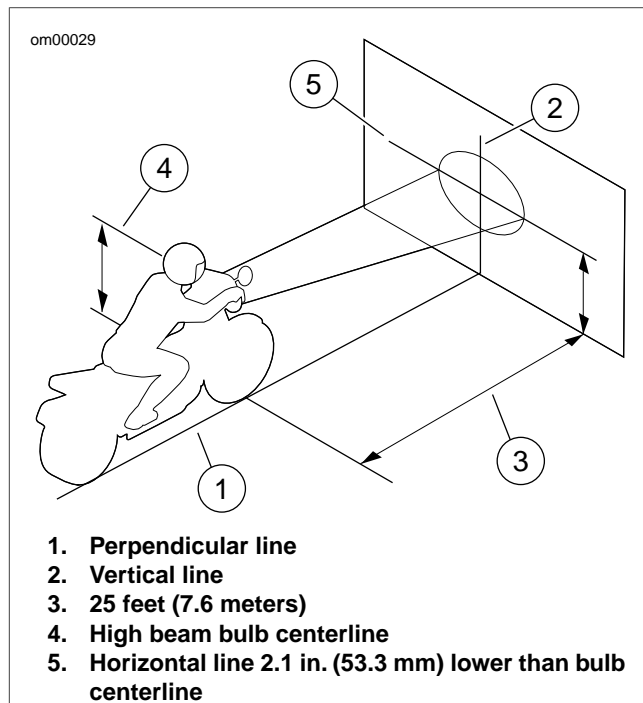

Figure 1-48. Checking Headlamp Alignment
See Figure 1-48. To aid in properly placing the motorcycle, a perpendicular line (1) can be drawn on the floor. For best results, choose an area with minimum light.
3. See Figure 1-48. Draw a vertical line (2) on the wall.
7. See Figure 1-48. Verify headlamp alignment. Turn the ignition switch to IGNITION and set the headlamp switch to HIGH beam.